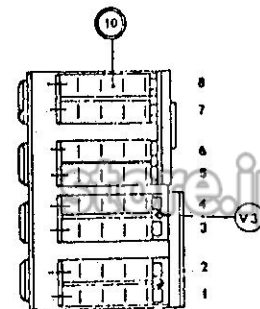

Fig. 27
2. **Insulating strips.** When replacing contacts, it is recommended that the insulating strips be replaced also. Using a screwdriver, remove two fasteners (4) retaining insulating strip (3). Replace strips using new fasteners.
- C. **Auxiliary Contact Block (Fig. 27).** When removing contact blocks (1-4), place breaker in closed position before loosening contact cradle bolt V3. Slide cradle free of V3 and remove contact assemblies. To replace contact blocks, reverse procedure making sure wires are returned to their original positions.